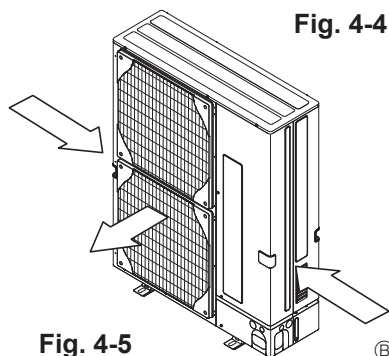

Fig. 4-5
- Position the unit so that the air outlet blows perpendicularly to the seasonal wind direction, if possible. (Fig. 4-5)